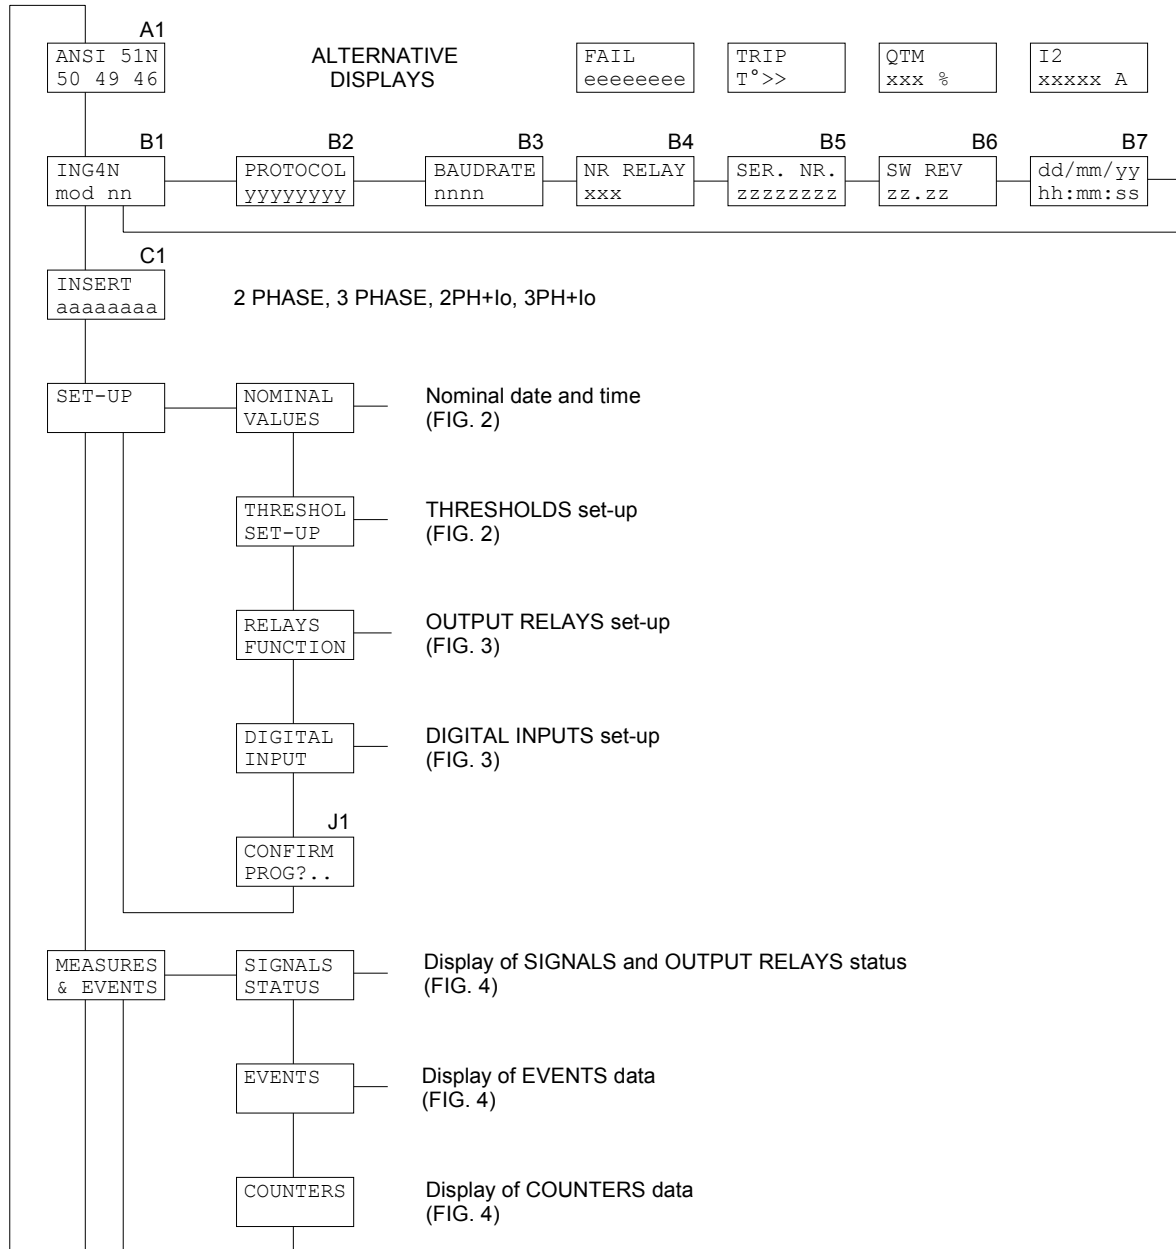

Figure 1
The programmable parameters are showed in Figures 1, 2, 3 and 4 at the following references:
- display on STANDARD MODE (Fig. 1, ref. A1 - par. 5.1)
The contents and the structure of the displayed messages are shown in figures 1, 2, 3 and 4; the references A1, B1, B2 etc. identify specific displayed messages in the figures.
5.3 Address and Time (fig. 1)
5.4 Protection insertion (fig. 1)**C1 - INSERTION SELECTION (programmable)**